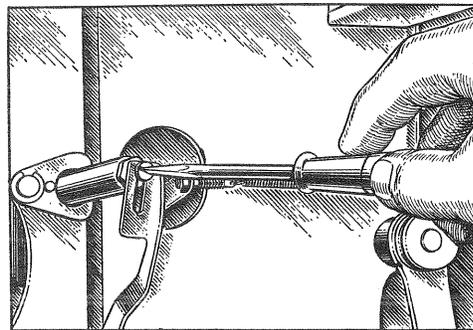

Figure 12—Adjusting height of elevator shaft
- (b) Improper adjustment of elevator shaft. The elevator shafts should rise to such a height as to give $\frac{1}{16}$ " clearance between the lowest surface of the elevator pad bottom and the top of the empty magazine. This adjustment can be made by means of the screw and lock nut as shown in Figure 12.
(8) FAILURE TO TRIP ON ECCENTRIC GROOVE